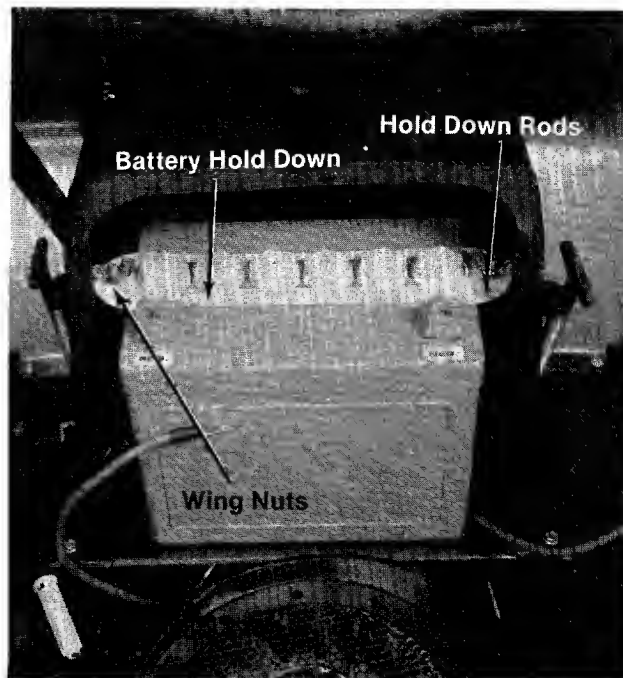

Figure 3.
1. Place the battery in the battery case with the terminals to the front of the rider. (See figure 3.)